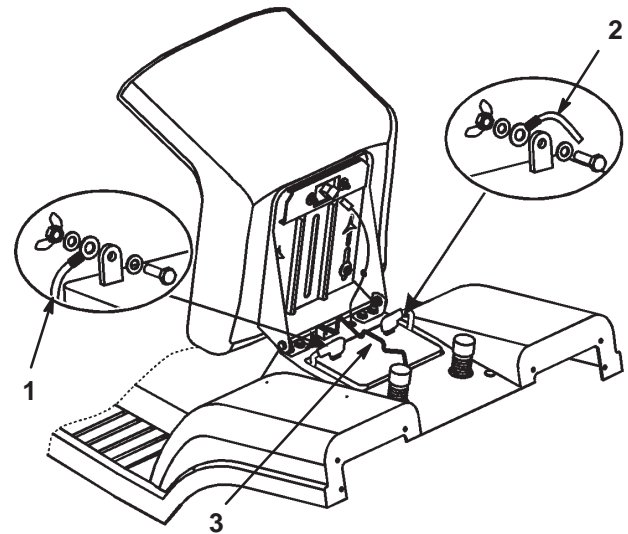

Figure 27
3. Lift the rubber cover up off of the negative (black) cable. Disconnect the negative (black) ground cable from the battery post (Fig. 27).
4. Lift the rubber cover up off of the positive (red) cable. Disconnect the positive (red) cable from the battery post (Fig. 27).
5. Remove the battery hold down rod (Fig. 27).
1. Place the battery into the chassis with the battery posts toward the front of the tractor (Fig. 27).
2. Secure the battery in the chassis with the hold down rod (Fig. 27).
3. Using the bolt and wing nut, connect the positive (red) cable to the positive (+) battery post (Fig. 27). Slide the rubber cover over the battery post.
4. Using the bolt and wing nut, connect the negative (black) cable to the negative (-) battery post (Fig. 27). Slide the rubber cover over the battery post.